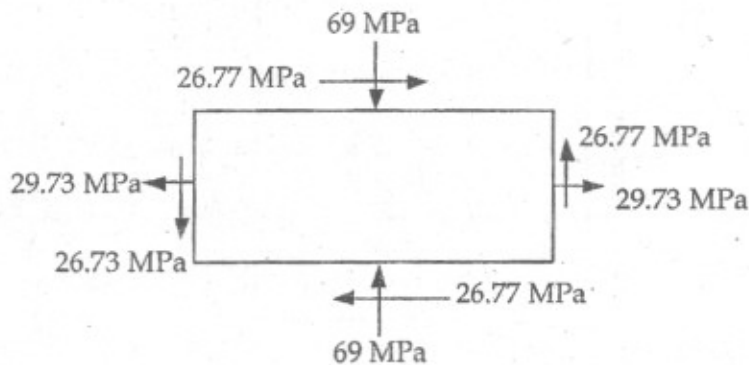

Fig. 9
10. (a) For the stress condition on an element as shown in Fig. 9, determine the principal planes and stresses. Also determine the maximum shear stress and the planes on which they act : [8]